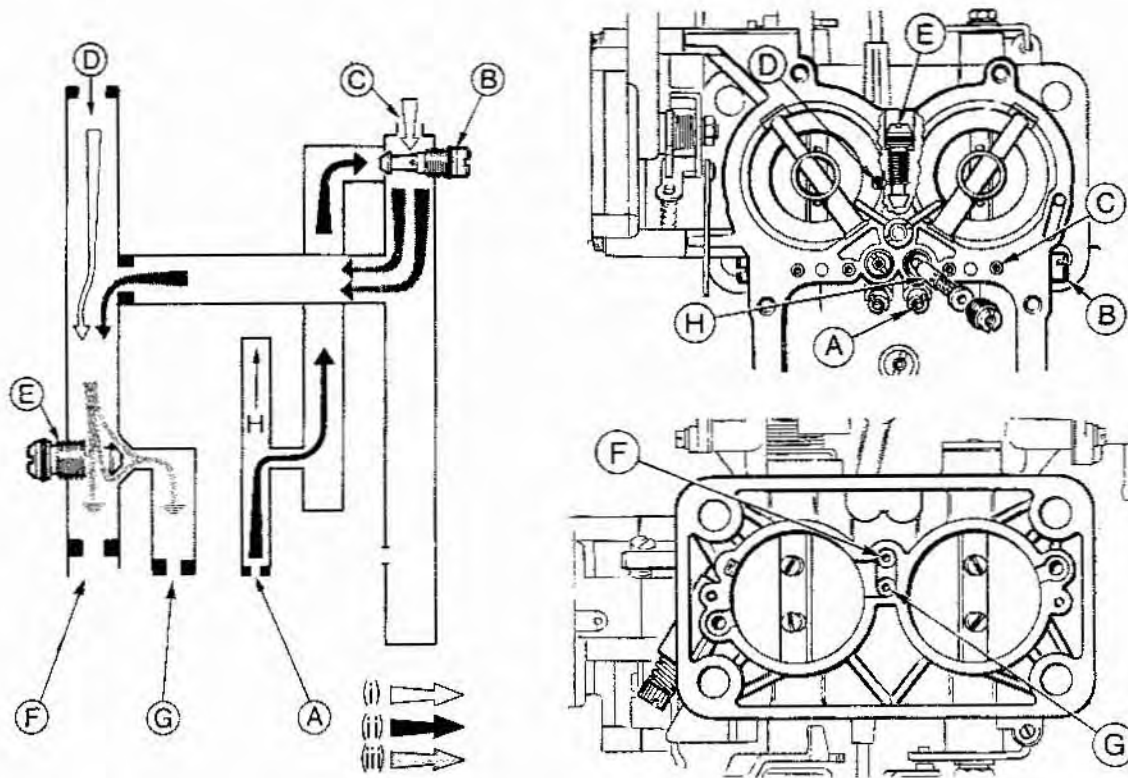

Fig. 1.14 The Weber bypass idle system
Reference to Fig. 1.14 will show the operation of the bypass idle system. Fuel from the float chamber is drawn through the secondary main jet (A) to the secondary idle jet (R) where it becomes emulsified with air drawn through the calibrated orifice (C). The mixture is then drawn through internal channels and a calibrated drilling and mixes with air supplied through the drilling (D) in the primary choke. The bypass idle adjustment screw (E) controls the amount of mixture admitted to the discharge apertures (F and G) which then is drawn through the inlet manifold and into the engine.